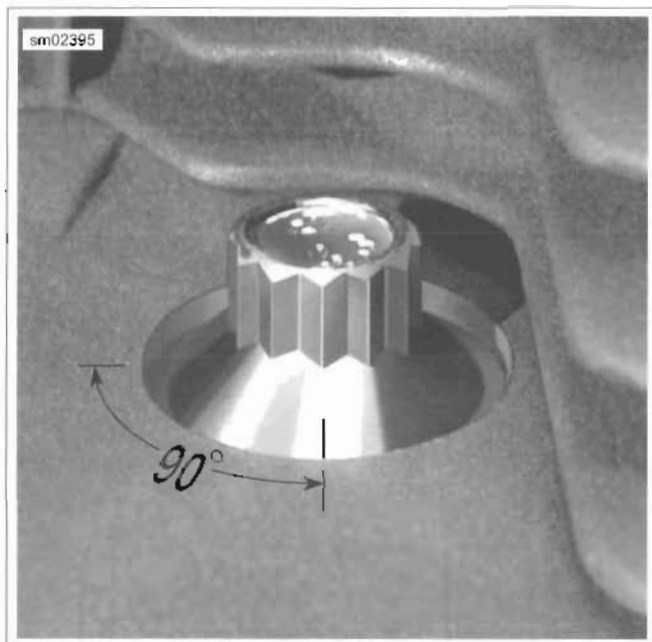

Figure 3-79. Final Tightening for Cylinder Head Bolts
6. See Figure 3-79. Final-tighten each bolt an additional 90 degrees (90 degrees) in the same sequence. For best